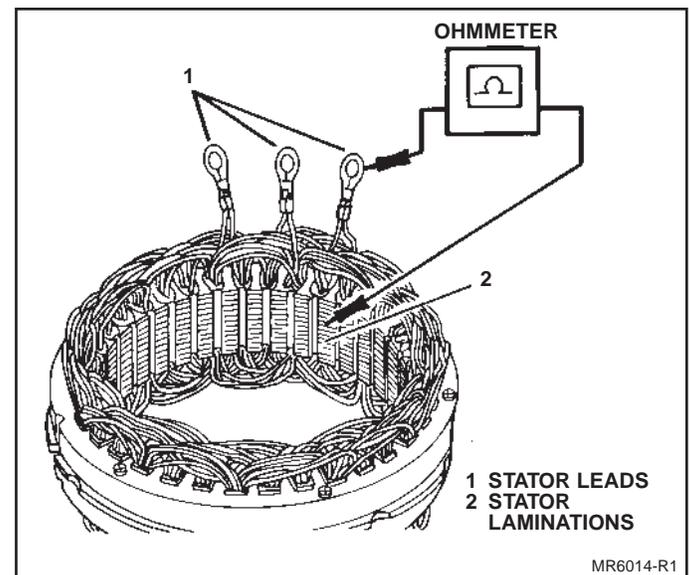

Figure 15. Electrical Check of Stator
7. Perform electrical check on stator. Use ohmmeter or 110-volt test lamp (Fig. 15). There should be no continuity between any of the stator leads and the stator laminations.